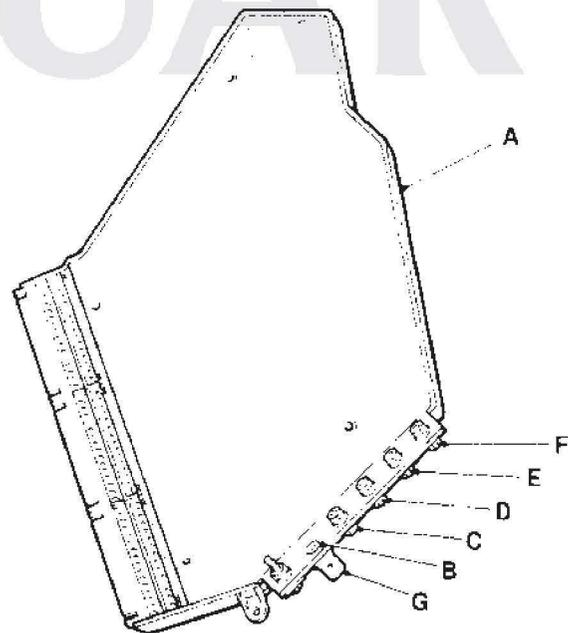

FIG 1
2. Remove the necessary trim items from the right-hand side of the unit to gain access to the microprocessor assembly, Fig 1 (A).
4. Using a digital voltmeter, touch one lead on to the earth rivet Fig 1 (B). Then, in turn, probe each of the four earth connection bolts, Fig 1 (C, D, E and F); if the earth connections are satisfactory, '0' volts will be indicated. If, during probing, any one of the four readings is abnormally higher, this will indicate a poor earth track.